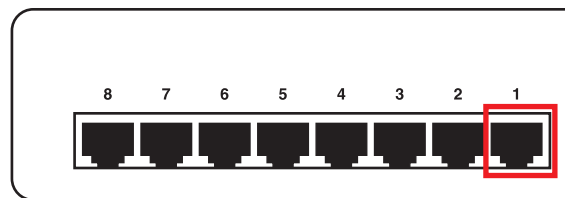

Figure 3-5. Plug the temperature sensor into Port 1.
1. Plug the sensor into one of the RJ-45 “intelligent sensor ports” on the rear panel of the unit. In this example, we will use Port 1. See Figure 3-5.